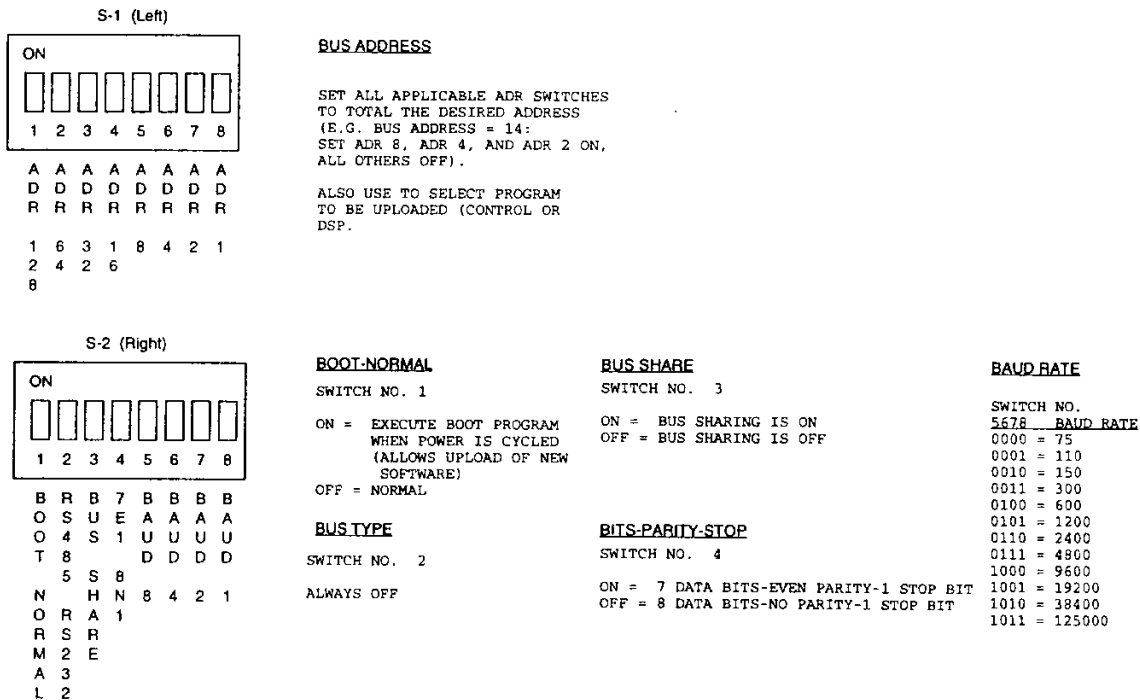

Figure 3-1 DIP Circuits - Switch Settings.
Before operating the equipment, set the DIP switches on the rear panel for correct remote operation (refer to figure 3-1). The factory default settings provide a starting point; where all DIP switches are OFF except for S-2(5) and S-2(7), which are ON to establish the baud rate at 38,400.
The serial interface includes the unbalanced (RS-232) line interface. DIP switch #S2-2 at the rear of the transmitter must be set to OFF, see figure 3-1.